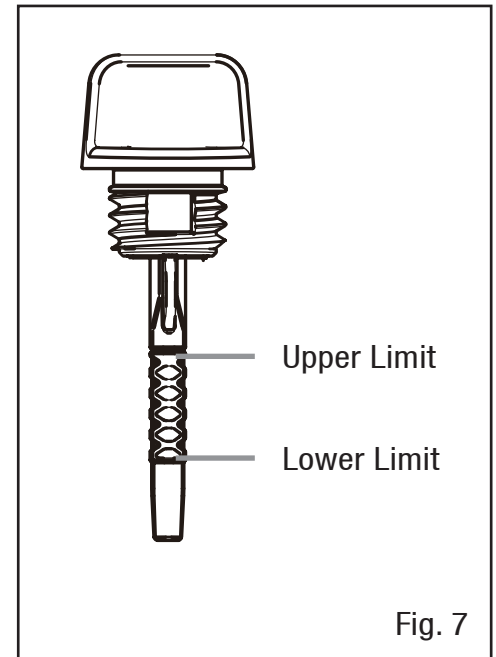

Fig. 7
3. Insert the dipstick into the oil fill without screwing it in. Remove the dipstick to check the oil mark (Fig. 7).